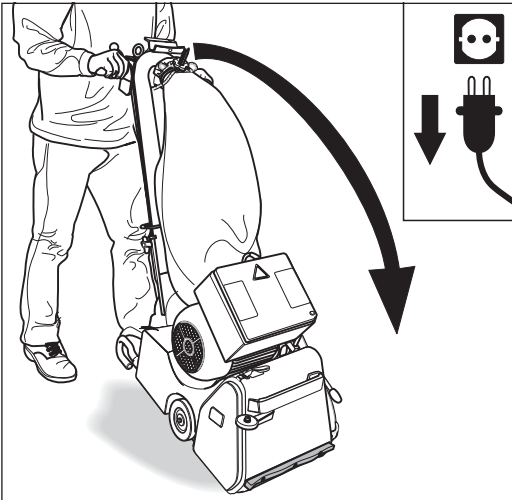
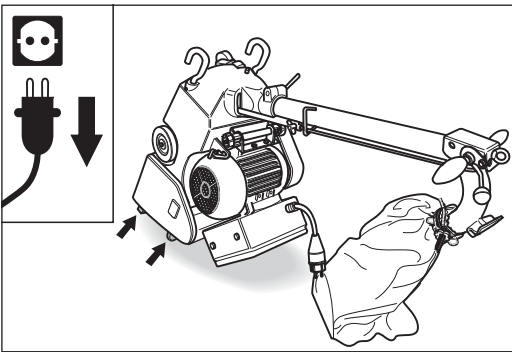

Fig. 94 **Pull the power plug out of the socket!** Tilt the machine forward over the bracket.
Fig. 95 **Ensure that the machine is standing securely!**
- 3 Tilt the machine forward over the bracket (Fig. 94). **Ensure that the machine is standing securely (Fig. 95)!**